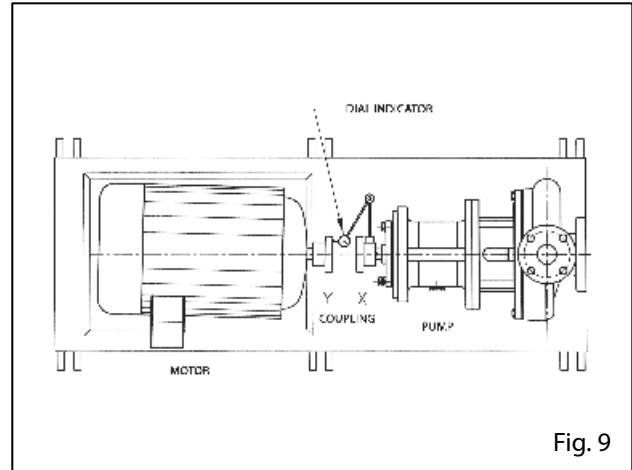

Fig. 9
- ∇ Horizontal alignment: Consist of installing a dial indicator (see Figure 9) in the top half of the coupling "X" leaving it fixed, then coupling "Y" is halfway rotated. If the readings exceed 0.002" (0.05 mm), this means that the motor is offset from the top down, install shims at the motor feet to correct the readings.